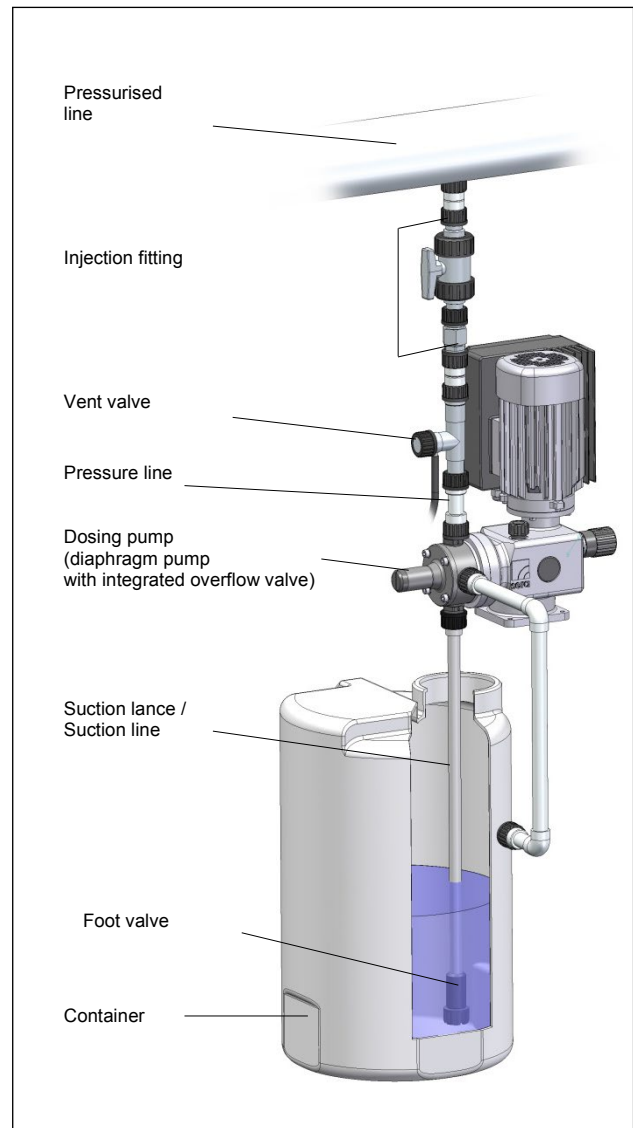

Fig. 30 Installing a ventilation valve
- install a ventilation valve in the pressure line (see Fig. 30)